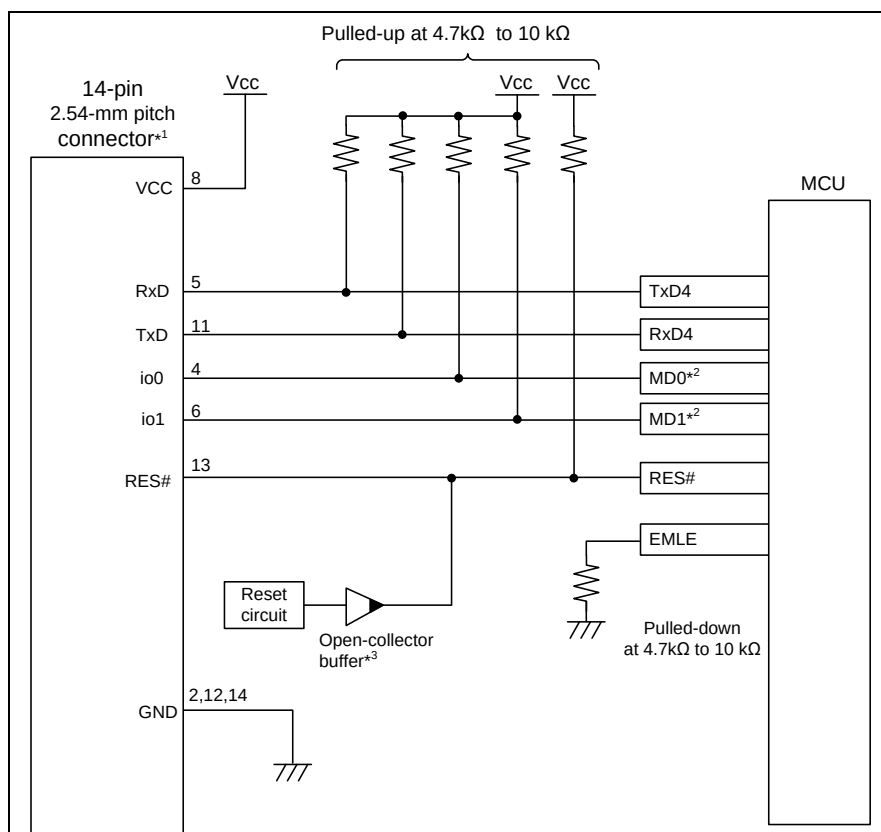
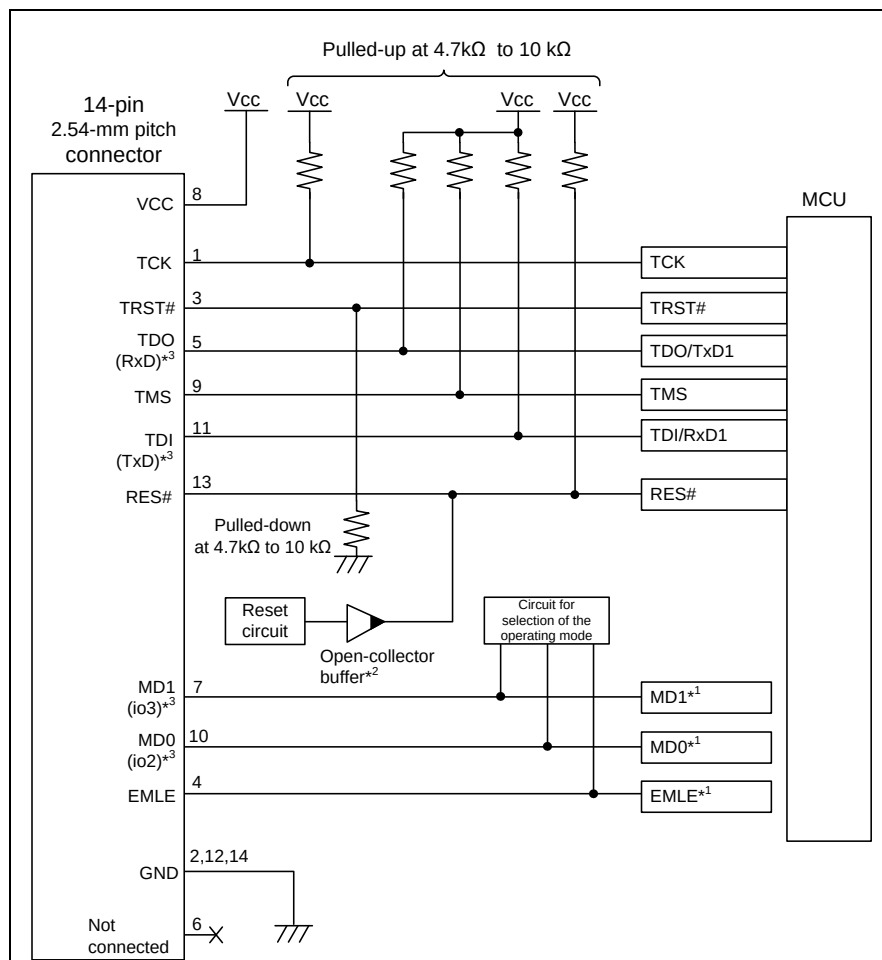
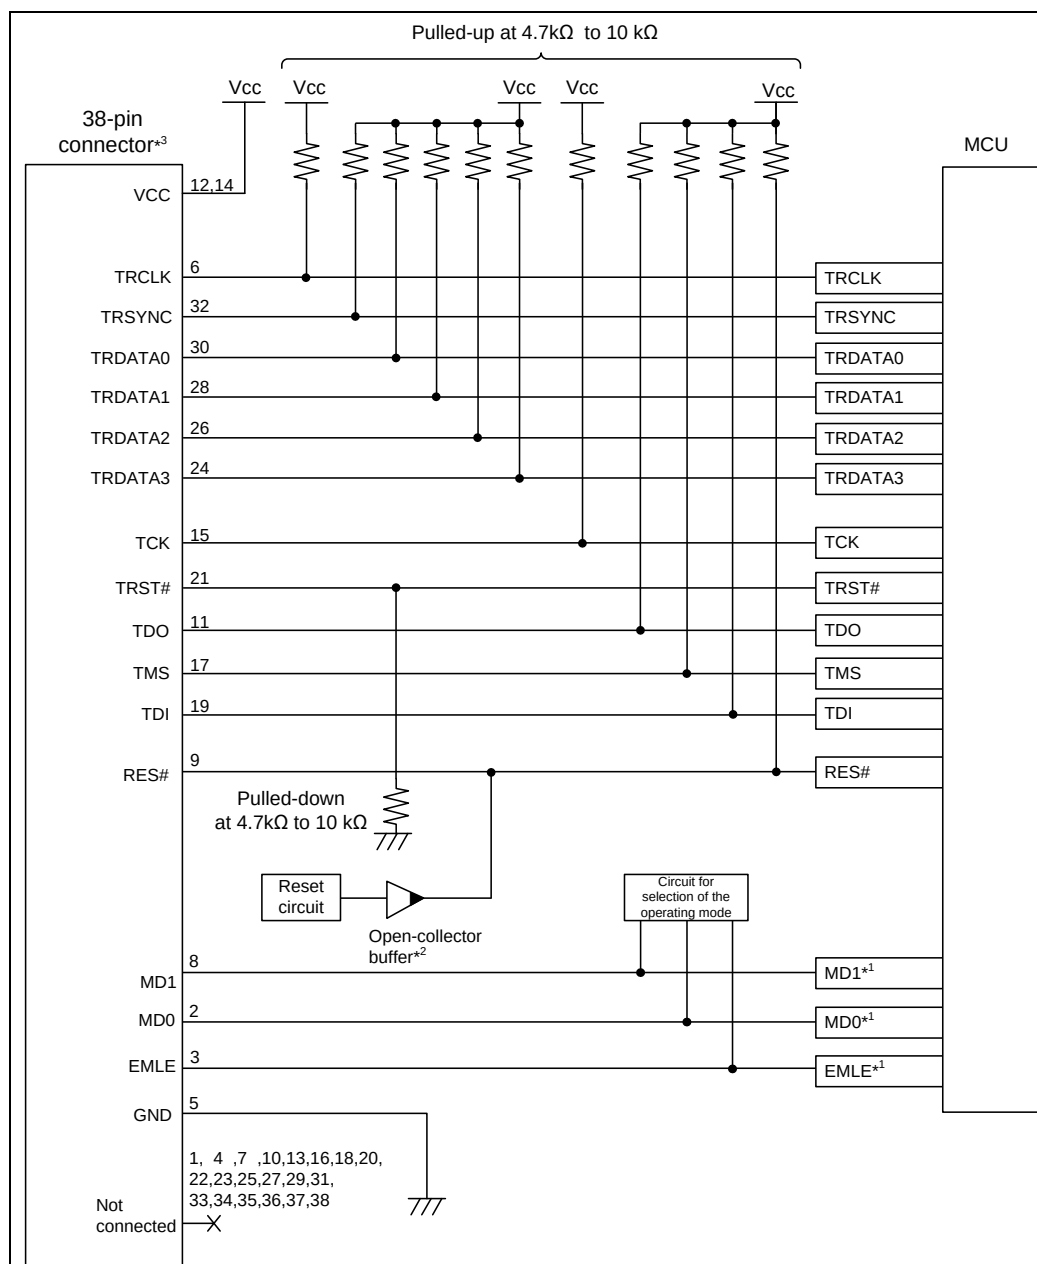

Figure 2.7 Recommended Circuit for Connection between the 14-Pin Connector and the RX610 Group MCUs when programming software is used.
Figure 2.8 Recommended Circuit for Connection between the 14-Pin Connector and the RX621, RX62N, RX62T, RX62G Group MCUs in JTAG Interface Connection
Figure 2.14 Recommended Circuit for Connection between the 38-Pin Connector and the RX610, RX621, RX62N, RX62T or RX62G Group MCUs in JTAG Interface Connection
Figure 2.7 shows a recommended circuit for connection between the 14-pin connector and an RX610-group MCU when programming software is used.
Figure 2.8 shows a recommended circuit for connection between the 14-pin connector and the RX62T and RX62G Group MCUs in JTAG Interface Connection.
Figure 2.14 shows a recommended circuit for connection between the 38-pin connector and the RX610, RX621, RX62N, RX62T or RX62G Group MCUs in JTAG Interface Connection.
3. When programming flash memory using programming software, connect the emulator connector and target MCU with reference to figure 2.7 for RX610 or figure 2.8 and figure 2.9 for RX621, RX62N, RX62T, or RX62G. When debugging, refer to figure 2.14 for the emulator connector pin numbers.